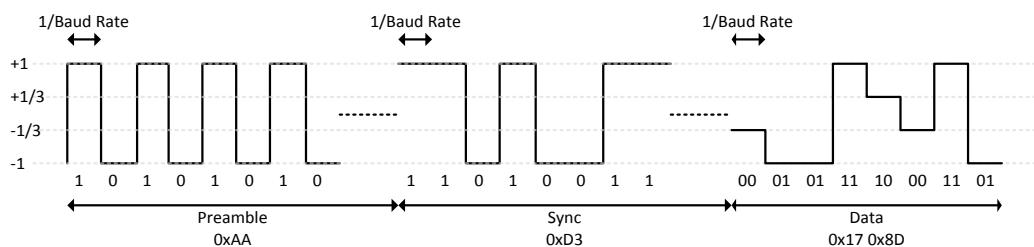

Figure 21: Data Sent Over the Air (`MDMCFG2.MOD_FORMAT=100`)
**CC1101** supports both 2-FSK and 4-FSK modulation. 2-FSK can optionally be shaped by a Gaussian filter with  $BT = 0.5$ , producing a GFSK modulated signal. This spectrum-shaping feature improves adjacent channel power (ACP) and occupied bandwidth. When selecting 4-FSK, the preamble and sync word is sent using 2-FSK (see Figure 21).